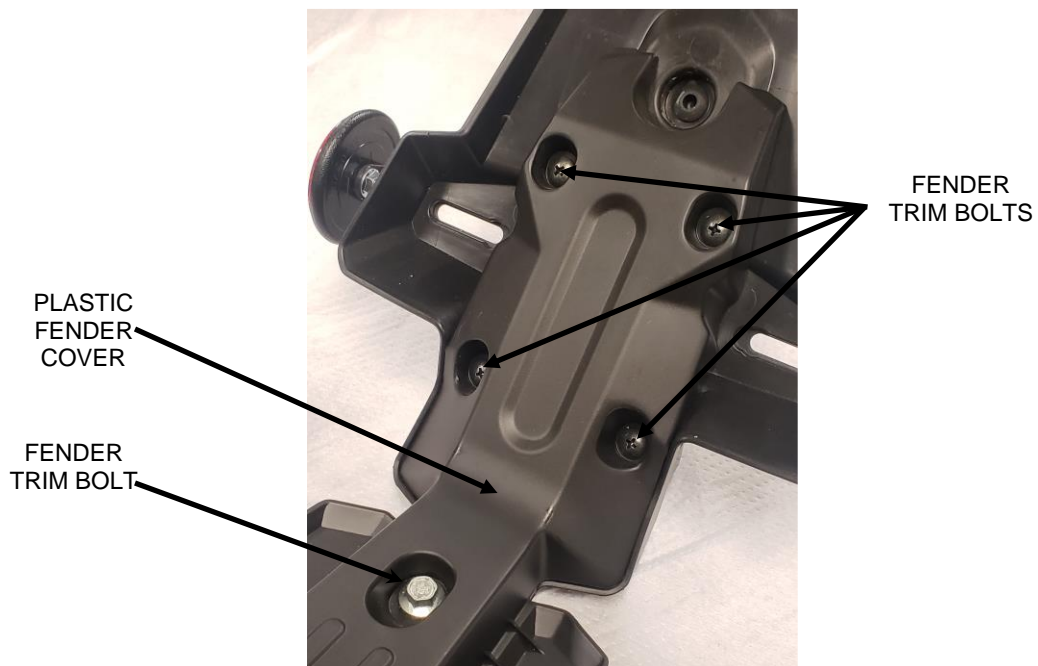

FIGURE 3
5. Remove the five fender trim bolts from the bottom of the rear fender and remove the plastic cover and discard. See **Figure 3**.